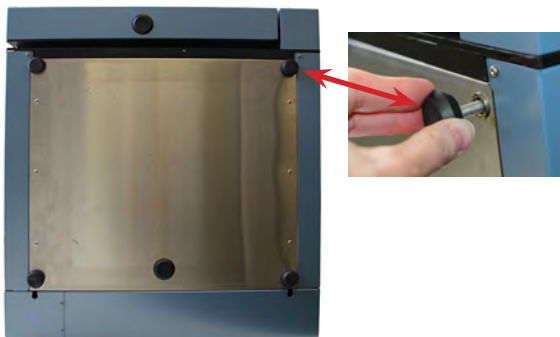

Figure 1
3. Using your hand, unscrew and remove the 4 leveling feet from the bottom of the refrigerator. Discard or store leveling feet for later use (Figure 1).